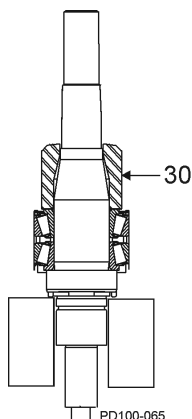

Figure 82 - Install Bearing Spacer
7. Install the bearing spacer (Figure 82, item 30).